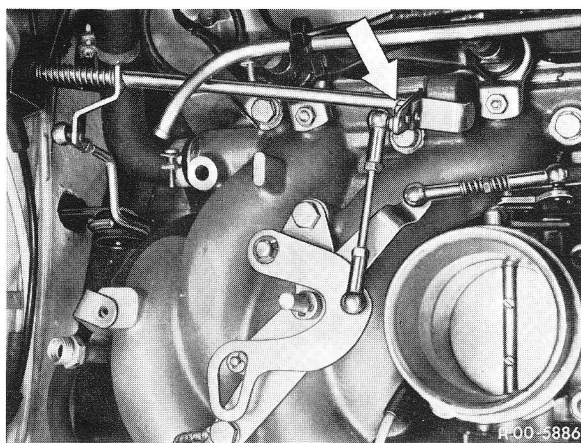

Fig. 3
- 6 Loosen screw (refer to arrow in Fig. 3), remove lock washer, push longitudinal control shaft in direction of front wall and remove. Watch out for the two plastic bushings.